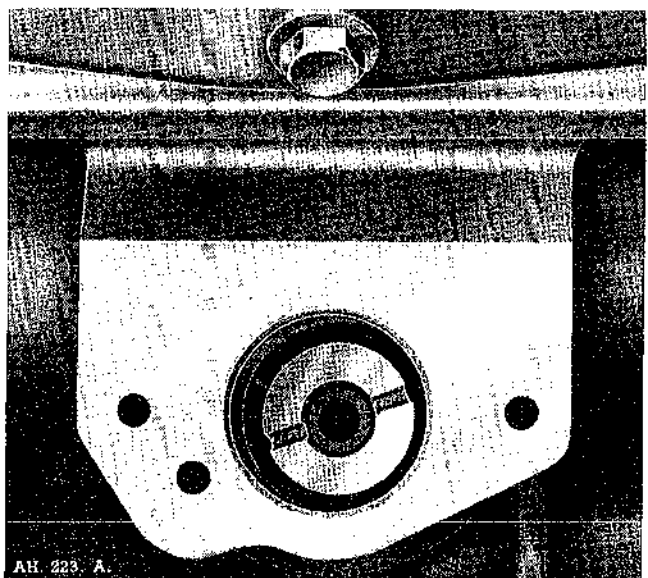

Fig. B.4. Distributor drive, showing the slot in the "Twenty-to-two" position.
- (4) Screw the  $\frac{5}{16}$  in. U.N.F. bolt into the threaded end of the distributor drive and replace the drive in the block so that the centrally cut slot takes up the position shown in Fig. B.4 (*i.e.* "twenty-to-two" position).
- (5) Replace the tachometer housing, rotating the external drive dog until it mates up with the slot